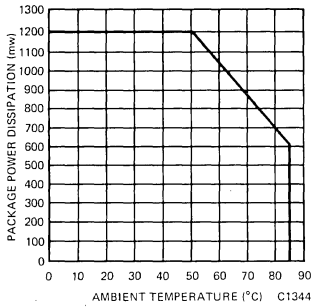

Fig. 4. Max. Tolerable Power Dissipation
- If operating temperature is above  $50^\circ\text{C}$ , then power dissipation must be derated. Using Derating Factor of  $-17.1 \text{ mW}/^\circ\text{C}$  for total package: Or see Fig. 4.